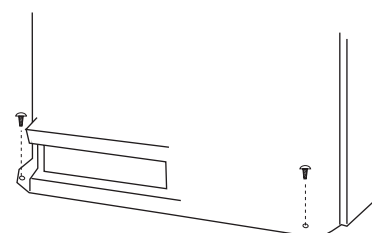

Figure.3
- Remove the front panel,then use two fastening screws to fix the unit on the floor. As Figure 3 shown.